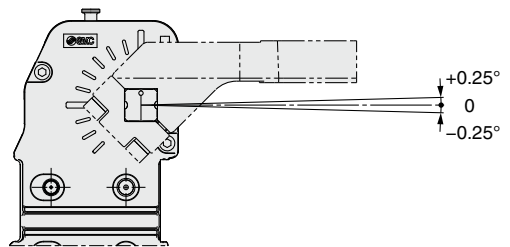

Figure 1
- 2) There is a mechanical difference of  $-0.25^\circ$  to  $+0.25^\circ$  at the clamping end as shown in Figure 1. Be sure to make adjustments externally using a shim. Refer to page 48.